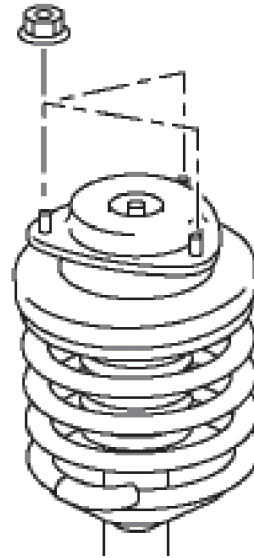

fig. C.5
4. Unthread the three upper bracket nuts within the engine compartment and remove the strut from the vehicle (Fig. C.5).